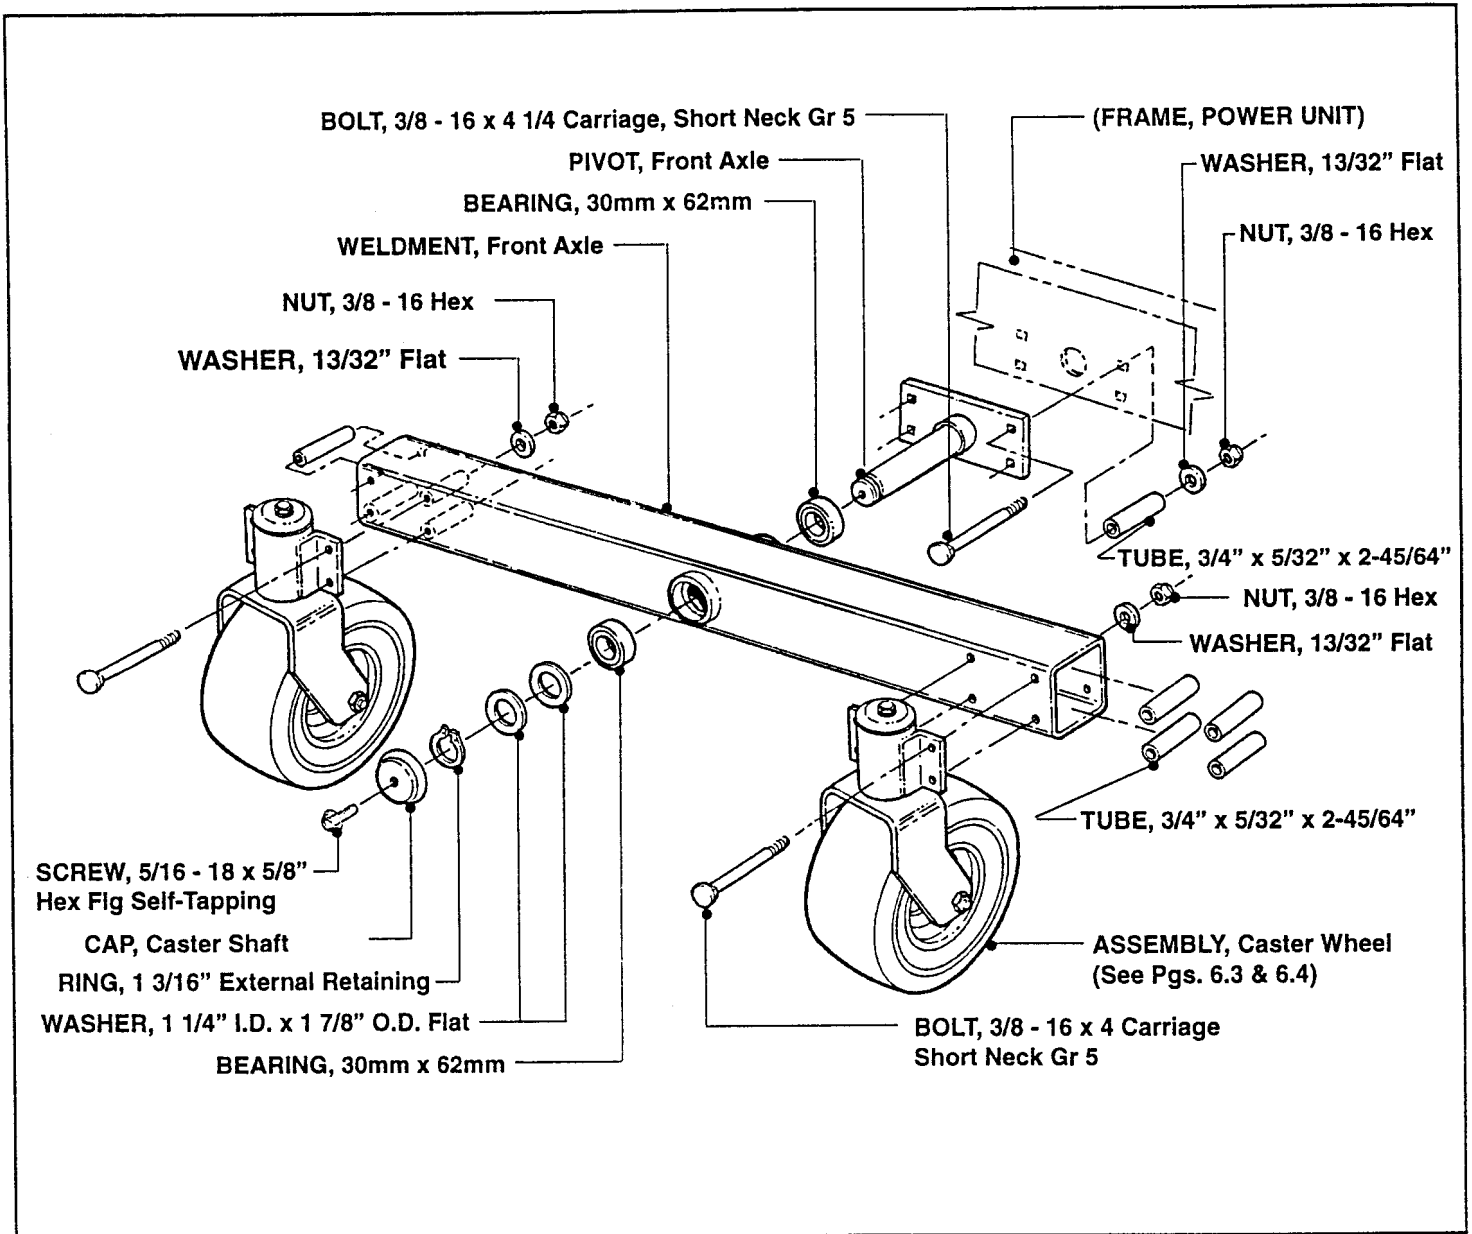

FIGURE 6.1
Components of the Caster Wheel/Front Axle Assembly are shown in Figure 6.1 above.
3. Remove Caster Shaft Cap. Refer to Figure 6.1.
5. Remove two (2) 1-1/4" I.D. x 1-7/8" O.D. Flat Washers.
- Remove existing Bearings by driving them to the outside with a Drift Pin. (The Bearing bosses have a machined seating surface. Bearings cannot be removed by driving them inward). Refer to Figure 6.1.
- Remove the four (4) 3/8 - 16 Hex Nuts, 13/32" Flat Washers and 3/8 - 16 x 4" Carriage Bolts from the Axle Pivot and Power Unit Frame. Refer to Figure 6.1.
When removing the Nuts, Washers and Carriage Bolts from the Front Axle Pivot, the Spacer Tubes may remain in place. This is O.K. - their removal is not necessary in order to replace the Axle Pivot. Refer to Figure 6.1.